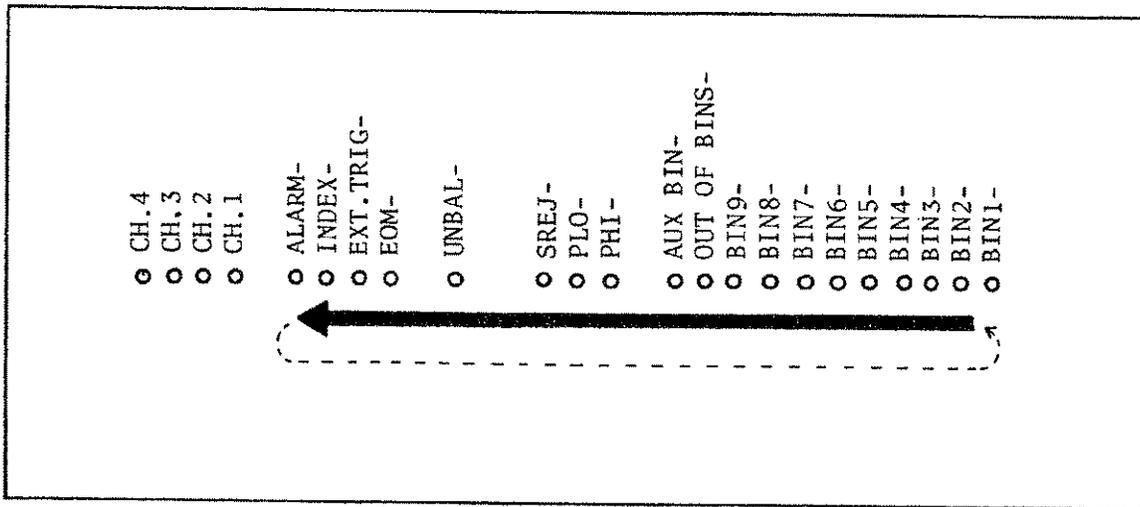

Figure 6-12. Handler Interface Function Check (Option 201)
18. Confirm that the LEDs on the handler simulator board light in the sequence shown in Figure 6-12.